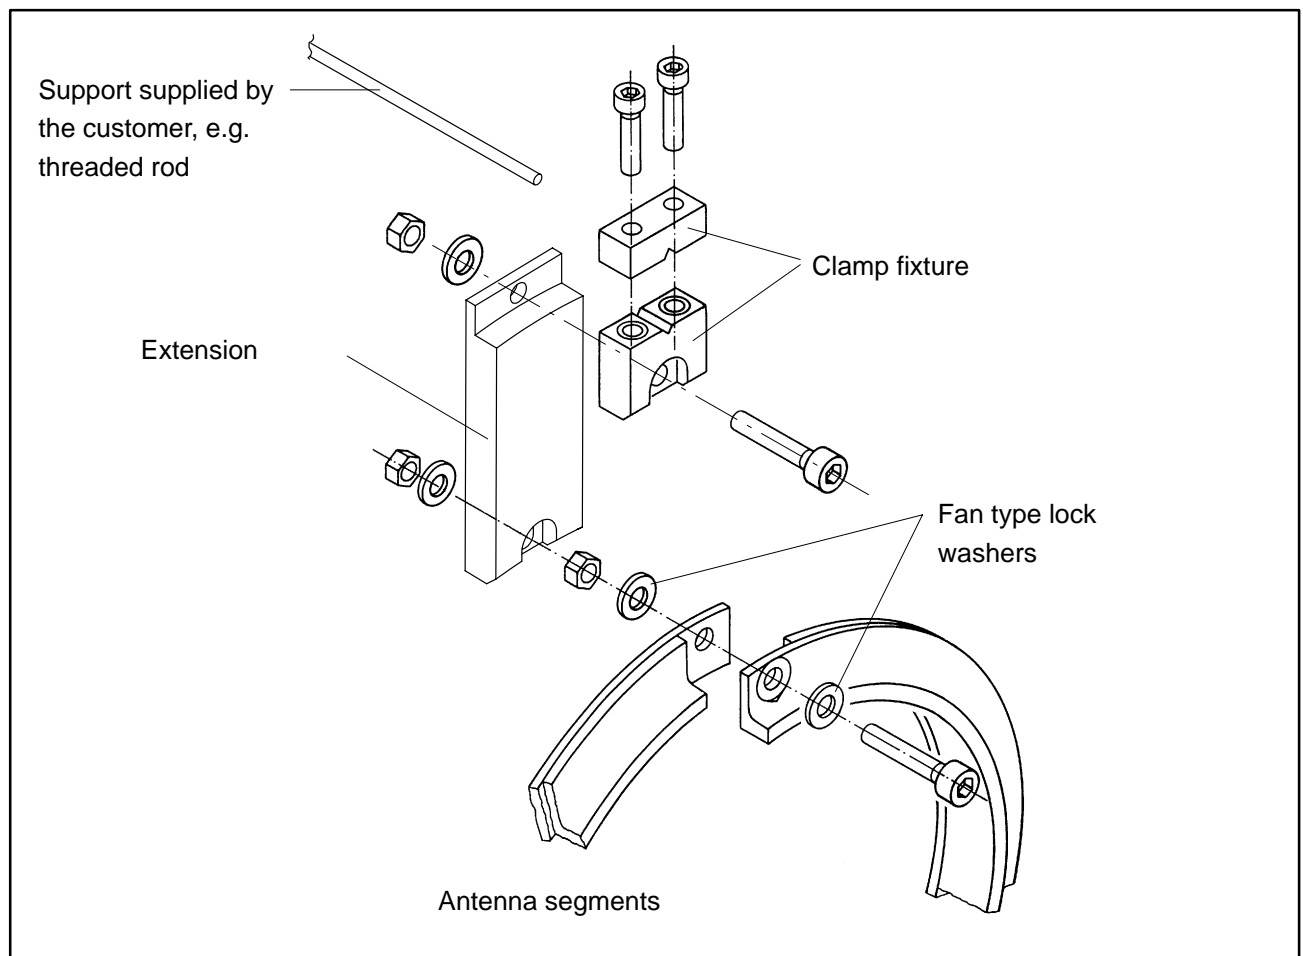

Fig. 4.7: Install the clamp fixture on the antenna ring
2. Fasten the clamp fixture with the enclosed screw fitting as shown in Fig. 4.7. It is essential to use the new fan-type lock washers.